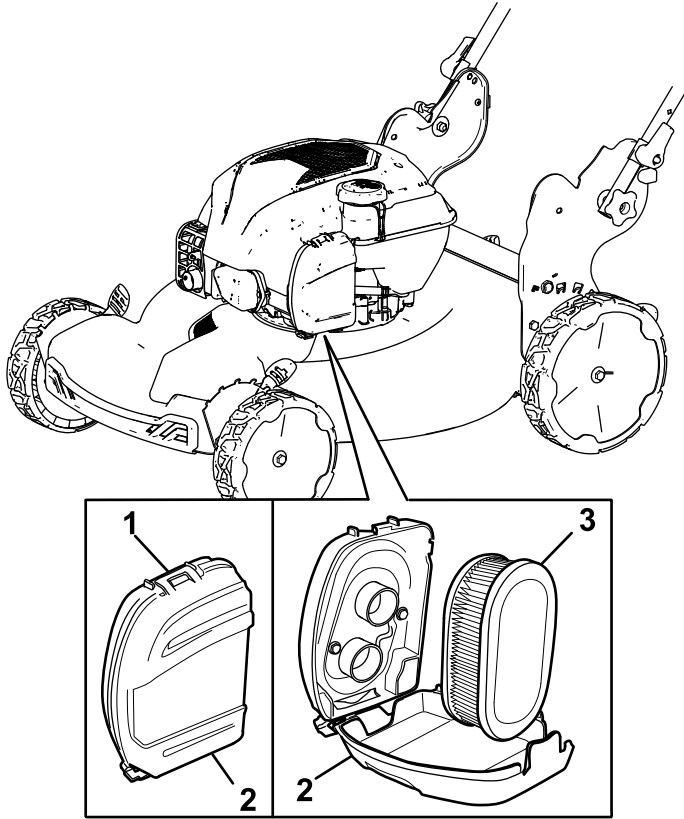

Figure 18
1. Unclip the top of the air-filter cover (Figure 18).
2. Remove the air filter (Figure 18).